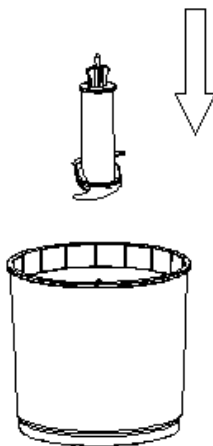

Fig:1
2. Assemble the stainless chopping blade into the chopper bowl, as shown in Fig.1.